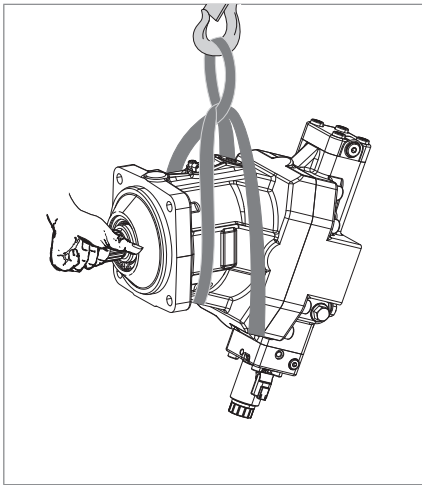

Fig. 6: Transport with lifting strap
- ▶ Place the lifting strap around the axial piston unit in such a way that it does not pass over assembled parts (e.g. valves, piping) and that the axial piston unit is not suspended from assembled parts (see Fig. 6).